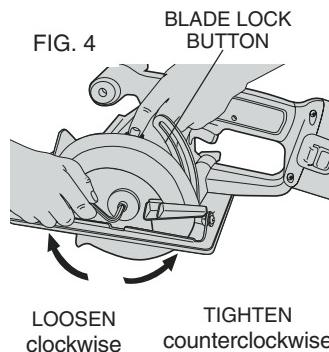

FIG. 4
- Lightly depress the blade lock (FIG. 4) while turning the spindle until the blade stops rotating.